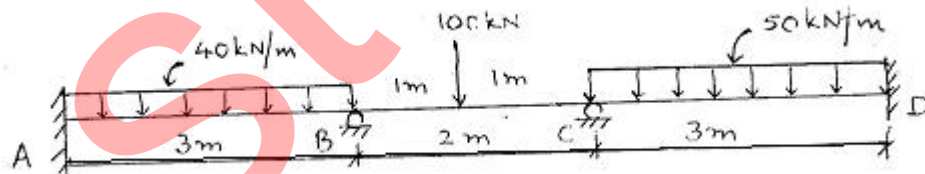

Figure 1
- 3 Define carryover factor and distribution factor. (2)
- 4 List the advantages of Kani's method. (2)
- 5 State Castigliano's of theorem I & II. (2)
- 6 Explain shear flow and sketch shear flow across the depth of an I-section. (3)
- 7 Write equilibrium equations for a portal frame of unequal column heights subjected to a u.d.l. on the beam. (3)
- 8 Derive stiffness factor for a beam with far end fixed. (3)
- 9 Mention the causes of sway in single bay single storey portal frames with sketches. (3)
- 10 Using strain energy method, determine the maximum deflection in a cantilever subjected to u.d.l. over the entire length. (3)
- 11 Analyse the continuous beam show in figure 1 by moment distribution method and draw B.M.D. Support B sinks by 2.5 mm.  $I = 3.5 \times 10^7 \text{ mm}^4$  and  $E = 200 \text{ kN/mm}^2$ . (10)